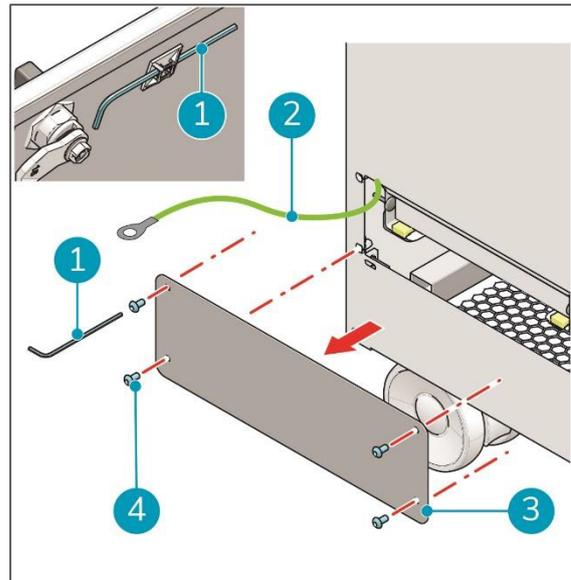

Figure 14
1. Unscrew the Allen screws (4x - Figure 14, pos.4) of the pre-filter compartment panel (Figure 14, pos. 3) with the provided 2.5mm Allen wrench (Figure 14, pos.1)
2. Remove the compartment panel (Figure 14, pos.3).
NOTE: There is a ground wire (Figure 14, pos. 2) connecting the compartment panel and the main ICon Pro unit. **DO NOT** disconnect it from the main ICon Pro unit.
10. **NOTE:** Make sure that the ground wire (Figure 14, pos. 2) is always connected to the compartment panel. If needed attach again.